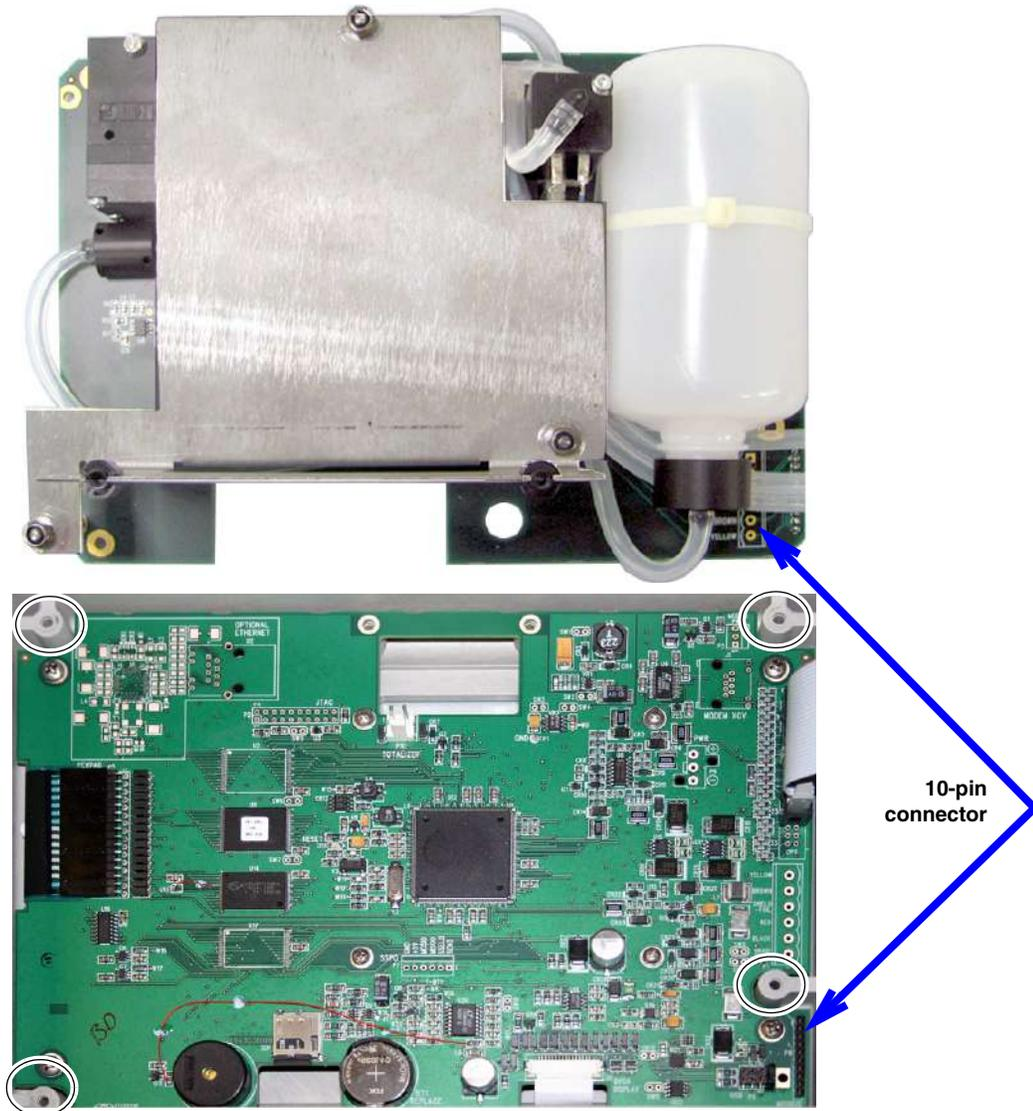

Figure 6-12 330 Bubbler assembly installation
**6.7.3 Installation Procedure** Referring to Figures 6-12, and 6-14, perform the following steps.